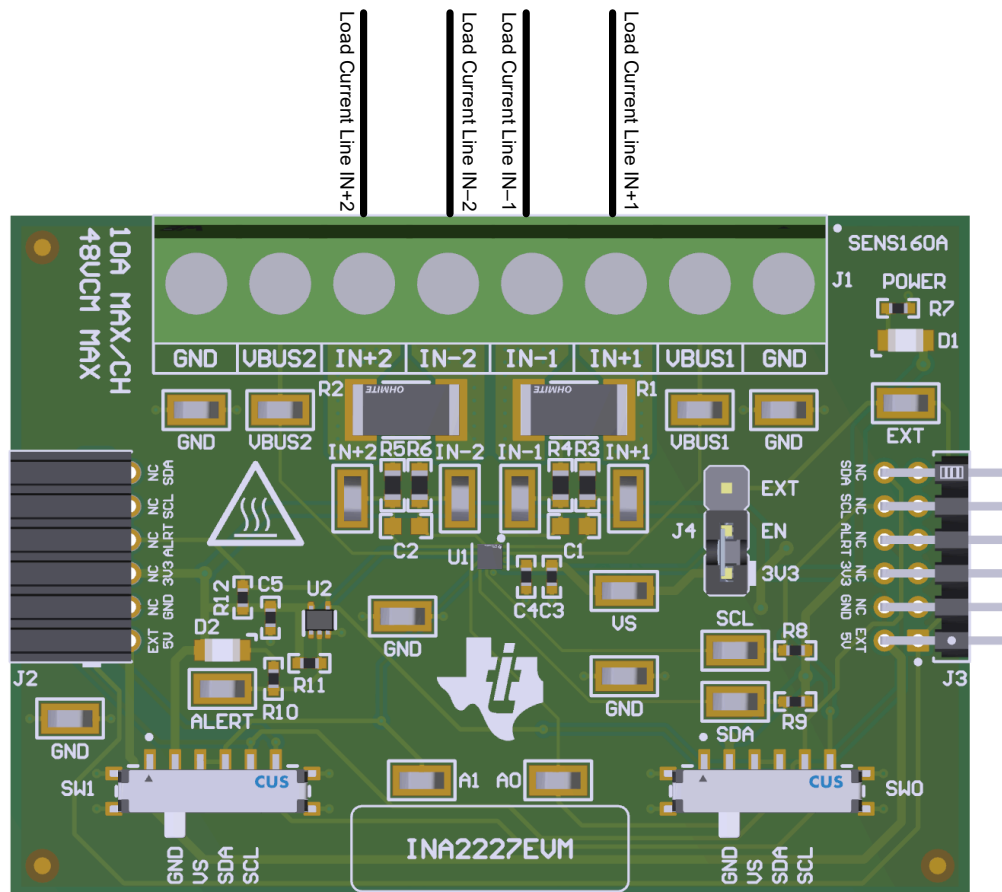

Figure 2-4. IN+ and IN– Wiring for 10A or Less
- a. Solder a 2512 resistor across the pads of R1 or R2 that connects the IN+ and IN– inputs as shown in Figure 2-4.